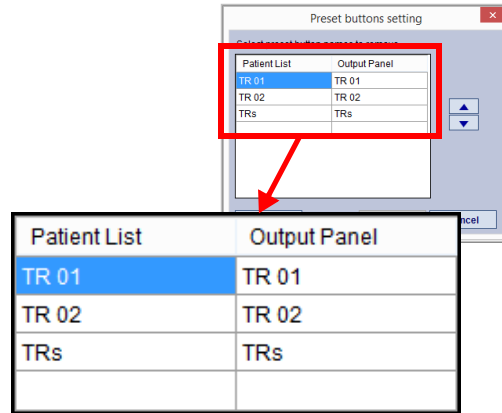

Figure 2-7: Preset Buttons Settings Dialog
7. In the **Remote Dicom Server** dialog, click **Preset buttons setting** to confirm that the preset buttons are displayed according to your configuration. A dialog (see Figure 2-7) is opened to show the current preset button configuration.